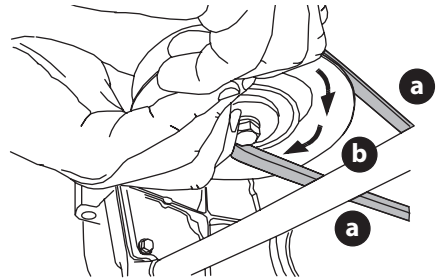

Figure 42
- d. While still holding the PTO belt (a) downward, continue turning the PTO pulley (b) until the PTO belt (a) is rolled off the PTO pulley (b) (Figure 42).
- Pull the right side of the PTO belt rearward and place the narrow V-side of the PTO belt into the PTO pulley (Figure 42 on page 30).
- While holding the PTO belt and PTO pulley together, rotate the PTO pulley to the left (Figure 42 on page 30). Continue holding and rotating the PTO pulley and PTO belt until the PTO belt is fully rolled into the PTO pulley.